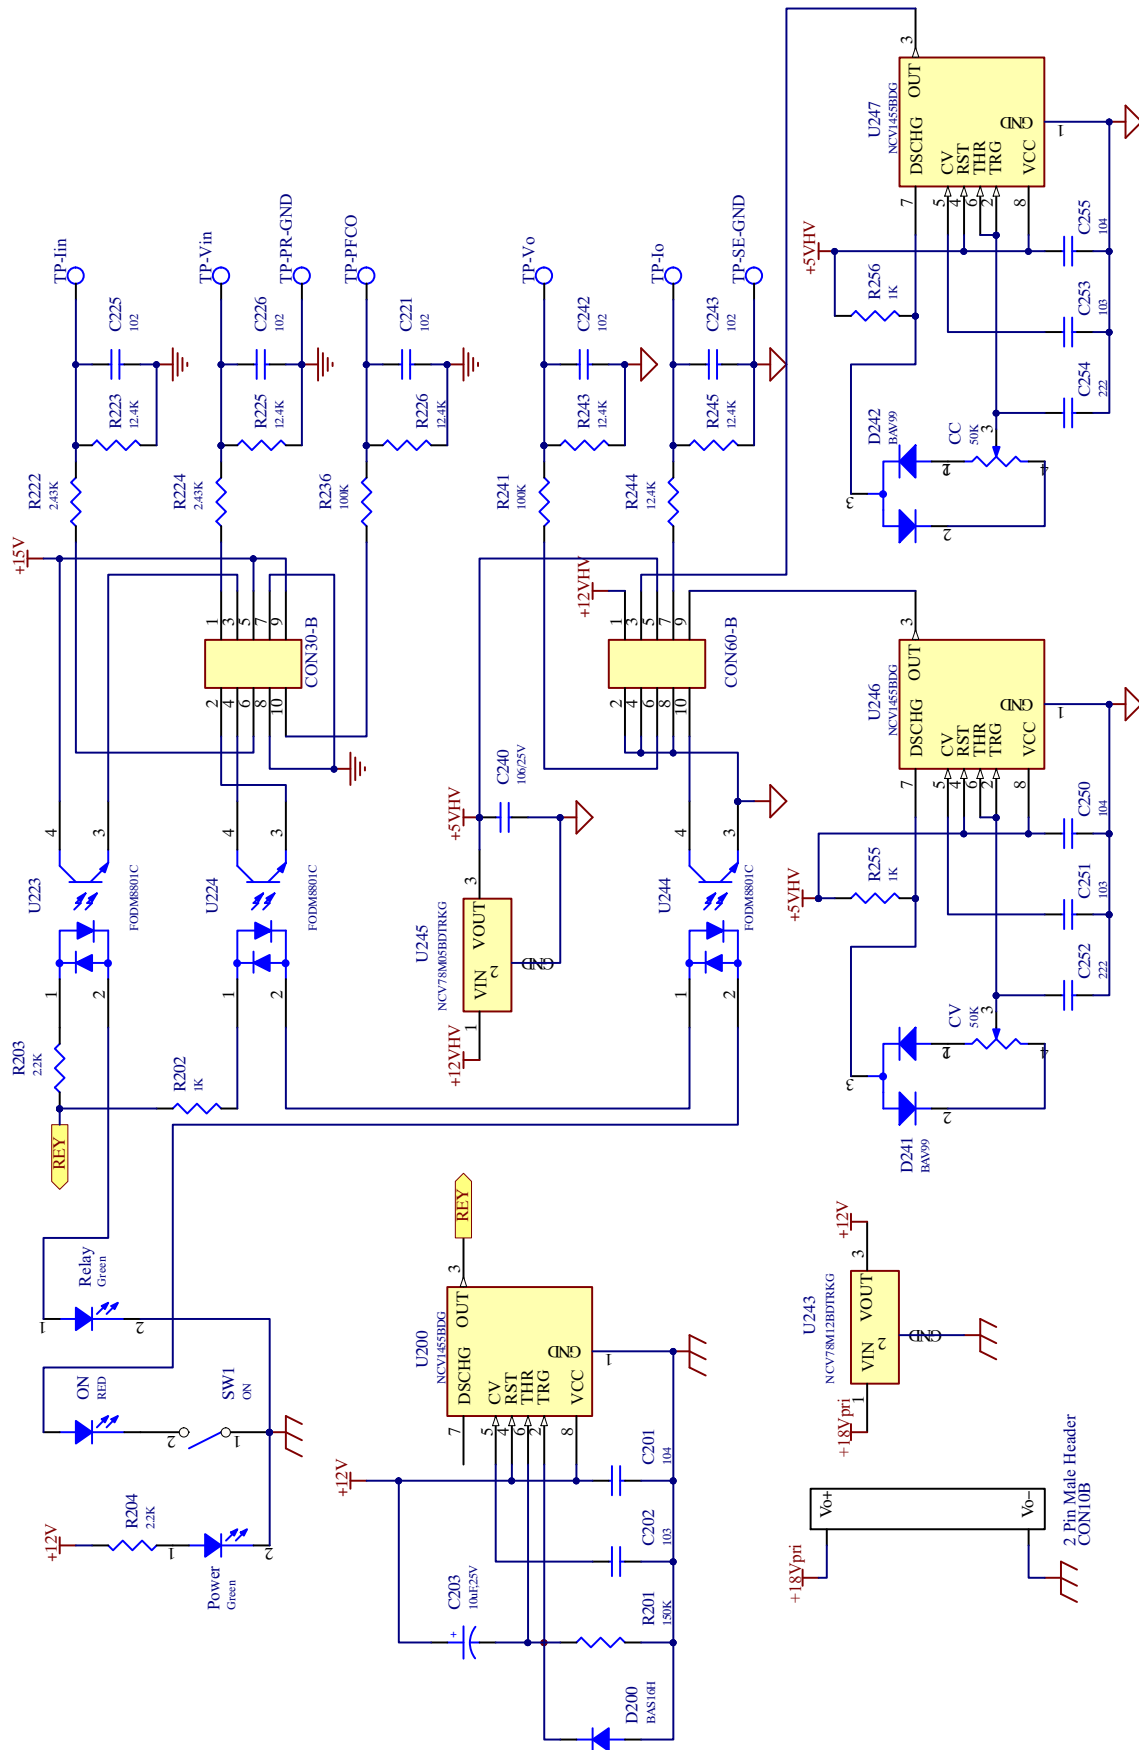

Figure 6. Schematic of the Manual Control Interface Board
In this design, we put the interface circuits on an add-on board for the flexibility. The features of the full function interface board will include the (1) Can communication with the BMS system to report the information like: Input voltage, Input current, Output voltage, Output current, Bus voltage, Output miss-connection, LV voltage, Temperature of the Bridge Rectifier, Temperature of the PFC MOFETs and Diodes, Temperature of the PFC Inductors, Temperature of the LLC transformers, Temperature of the LLC Diodes. (2) Can communication with the BMS to receive the following command: Power-up, Output voltage, Output current, Power off. (3) Output the CC, CV PWM signals and the power-on and relay-on signals to the main board. But, the full function interface board is not ready so far. We use a simple manual control board instead of the full function one. Figure 6 show the schematic of the manual control interface board.